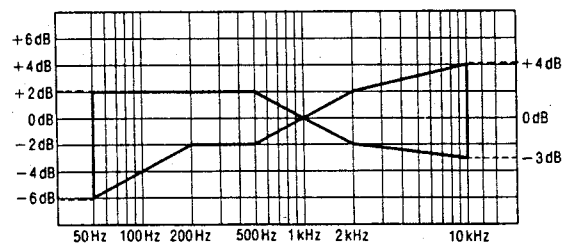

Fig. 14
5. Playback the recorded signal and assure that it is within the range shown in Fig. 14 in comparison to the reference frequency (1 kHz).